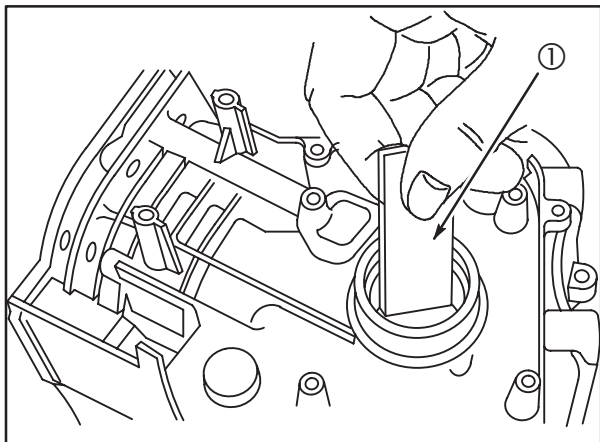

Fig. 5
1. Check magneto bearing for damage. Check for wear at several locations using plug gauge #19219 (1) or appropriate measuring tools, **Fig. 5**. If plug gauge is not available see reject dimension in Section 13.